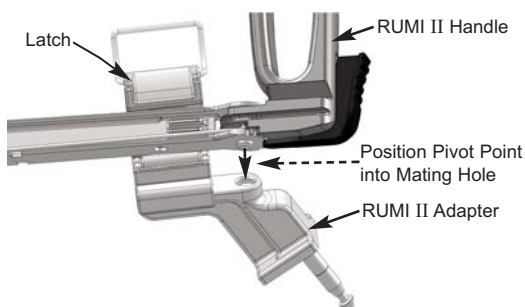

Figure 2. Attaching the RUMI II Handle
1. Open the Latch on the Adapter (Figure 2).
3. Position the Pivot Point on the underside of the Manipulator Handle into the Mating Hole of the Adapter (Figure 2).